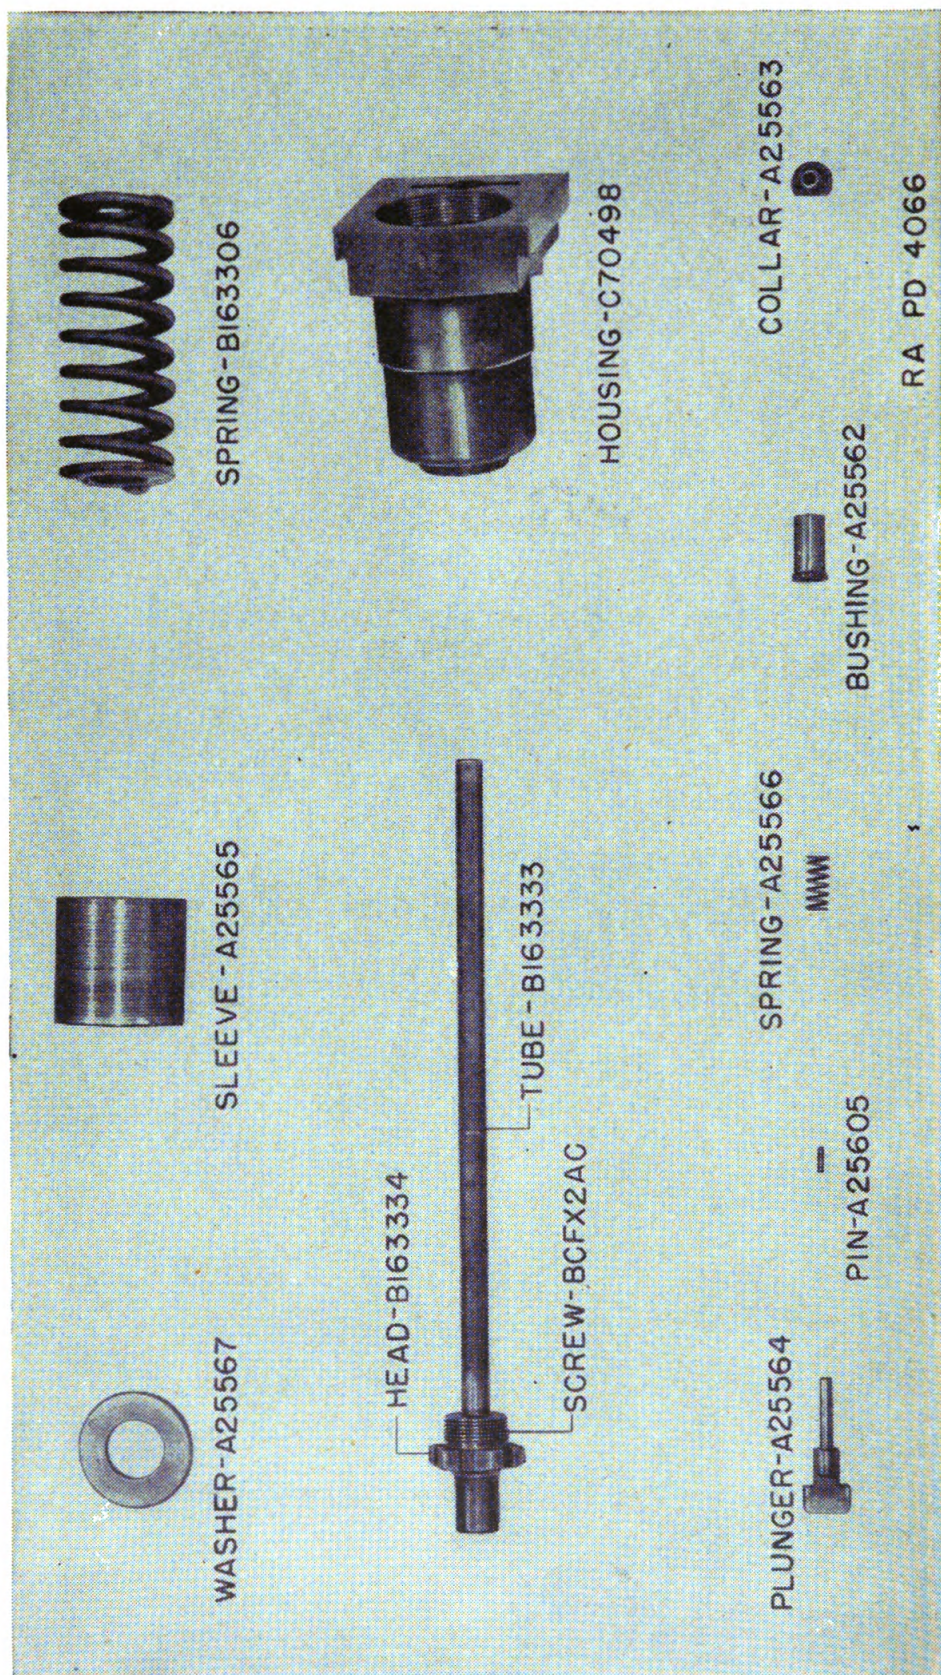

FIGURE 15.—20-mm automatic gun M2, driving spring guide and rear buffer group parts.
(1) Remove the rear buffer lock plunger pin and slide out the plunger and spring, collar, and bushing.
(2) Unscrew the rear buffer sleeve and remove the spring and washer (fig. 15).